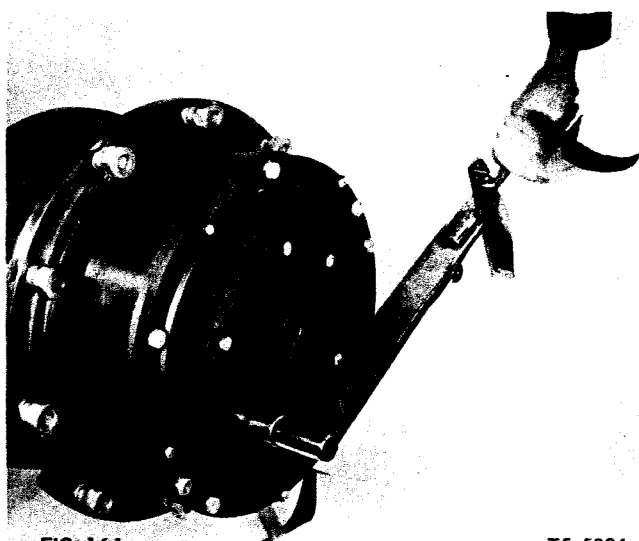

FIG. 161
25. Apply light coating of Permatex No. 2 to mounting face of the sun gear thrust cap. Install cap on planetary spider assembly. Make certain that "O" ring seal, if used, is properly positioned in groove in the mounting face, and is not twisted. Tighten bolts to specified torque (Fig. 161).